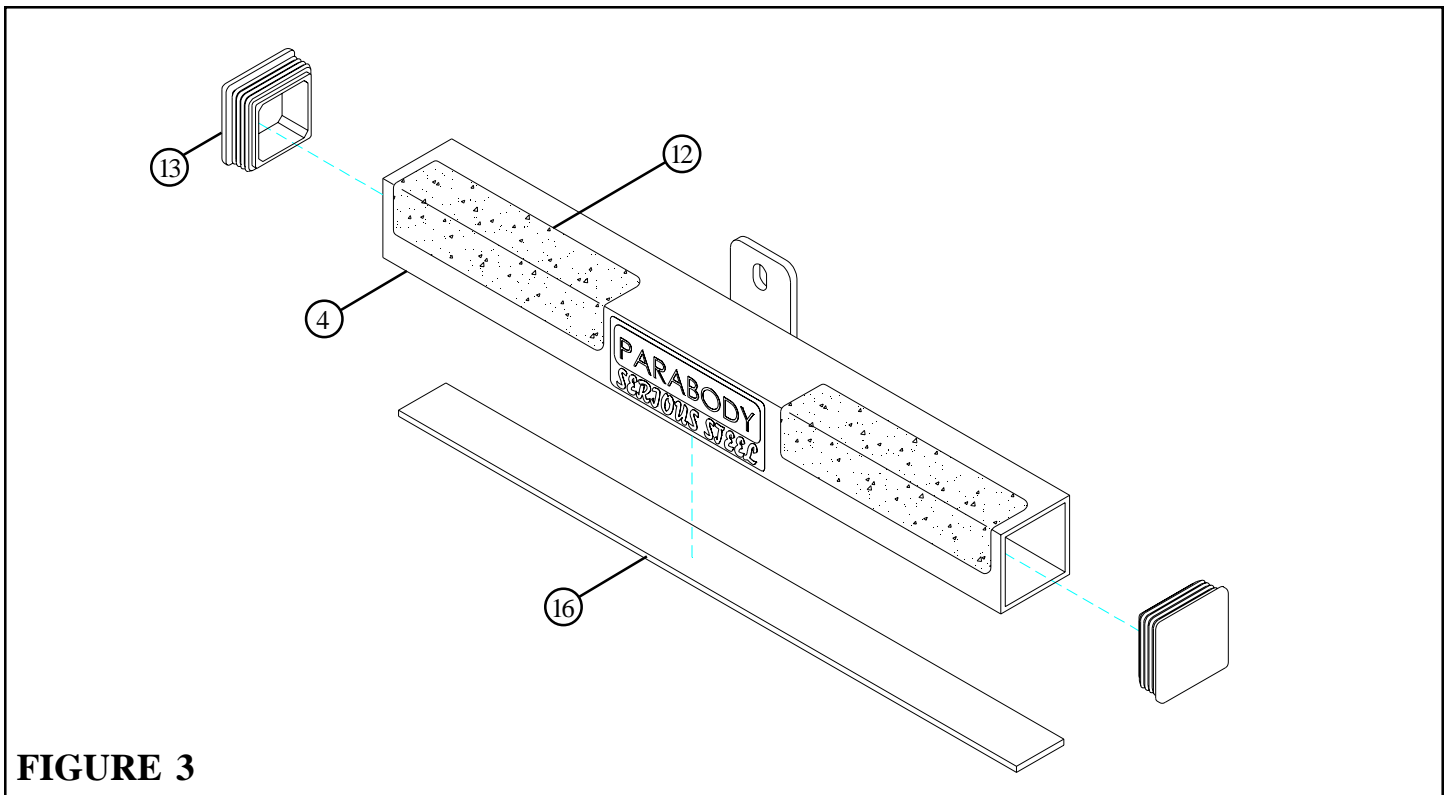

FIGURE 3
- Insert two 2" SQ. END CAPS (13) into the ends of the CROSS BRACE (4) as shown in FIGURE 3.
- Assemble two 2-1/2 X 5-1/2" NON-SKID STRIPS (12) to the CROSS BRACE (4) as shown in FIGURE 3.
- Assemble one 17-1/2" FOAM STRIP (16) to the underside of the CROSS BRACE (4) as shown in FIGURE 3.